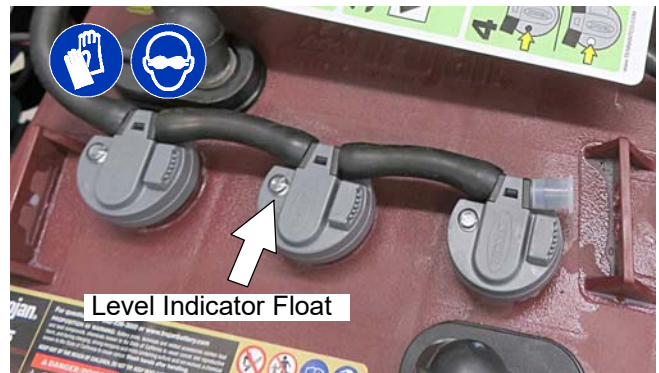

FIG. 128
2. After charging batteries, check the electrolyte level indicator on each battery cap. If any of the indicator floats are low, add water as described in the next step (Figure 128).